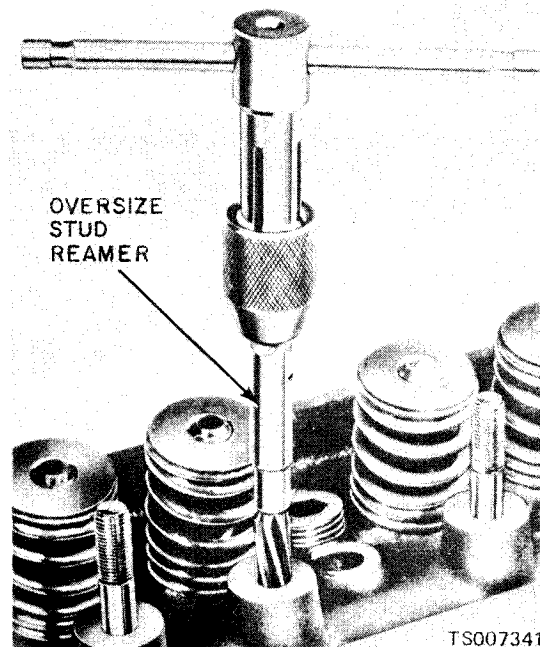

Figure 6-12. Reaming Rocker Arm Stud Bore.
(1) If the rocker arm stud was broken off flush with the stud boss, use an easy-out to remove the broken stud following the instructions of the tool manufacturer.
(2) When going from a standard size rocker arm stud to an 0.010 or 0.015 inch oversize stud, always use the 0.006 inch oversize reamer before finish reaming with the 0.010 or 0.015 inch oversize reamer.
(3) If a loose rocker arm stud is being replaced, ream the stud bore using the proper reamer (or reamers in sequence) for the selected oversize stud (fig. 6-12). Make sure the metal particles do not enter the valve area.